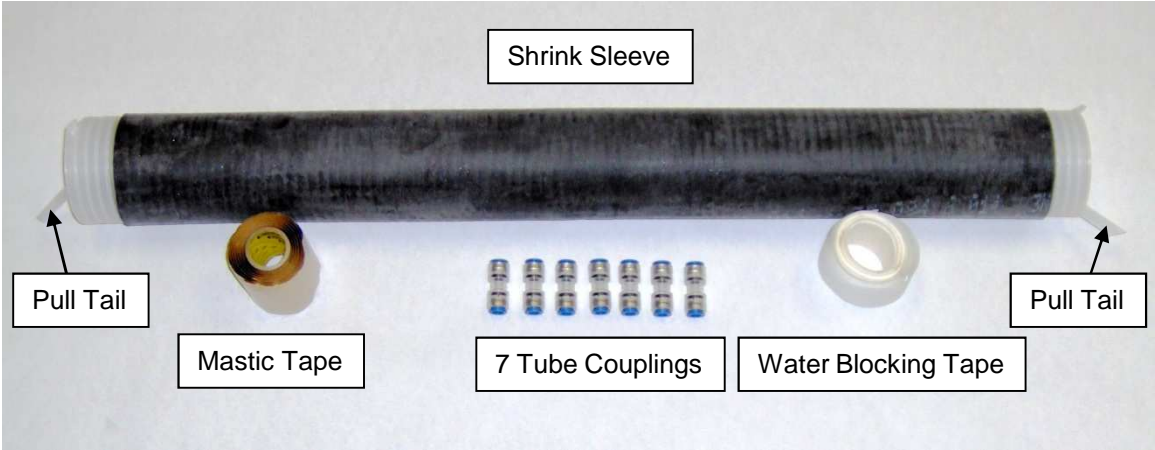

Figure 1
5.1 See Fig. 1 for a typical Tube Cable Splice Kit layout and kit component details.